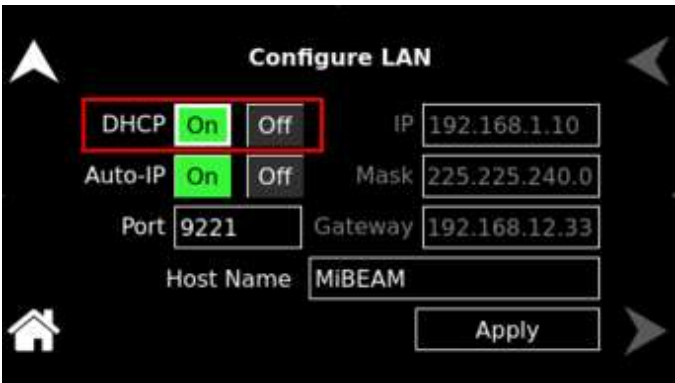

Figure 13-41. LAN Screen – DHCP
- **DHCP:** Selects whether DHCP is enabled or disabled. Refer to Figure 13-41.